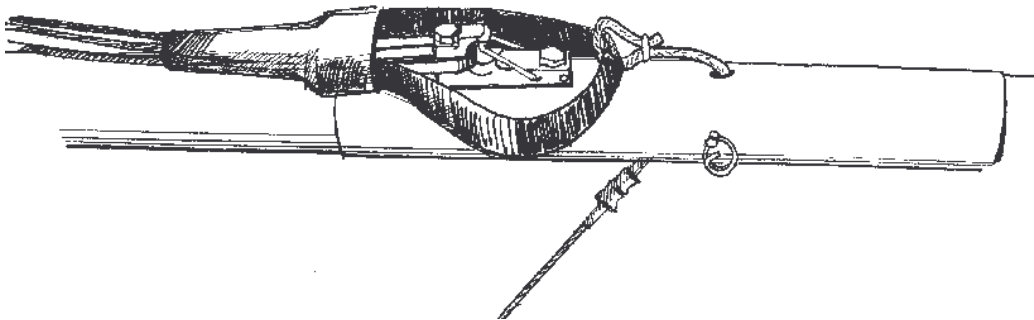

Fig. 11
2.2.8. Check the rear wires/keel tube junction. Assembly must be connected with the pin and the safety ring (Fig. 11).